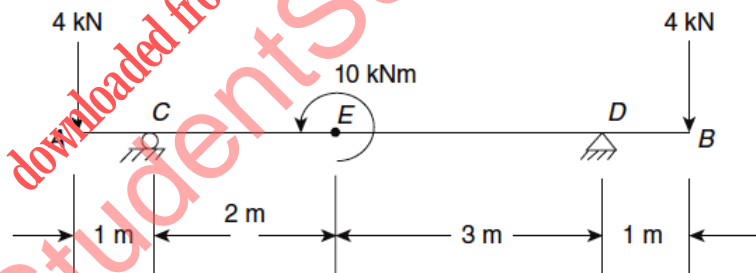

Figure 1
- b) Draw shear force and bending moment diagram of the beam shown in figure 1 for the given loading. [3+12]